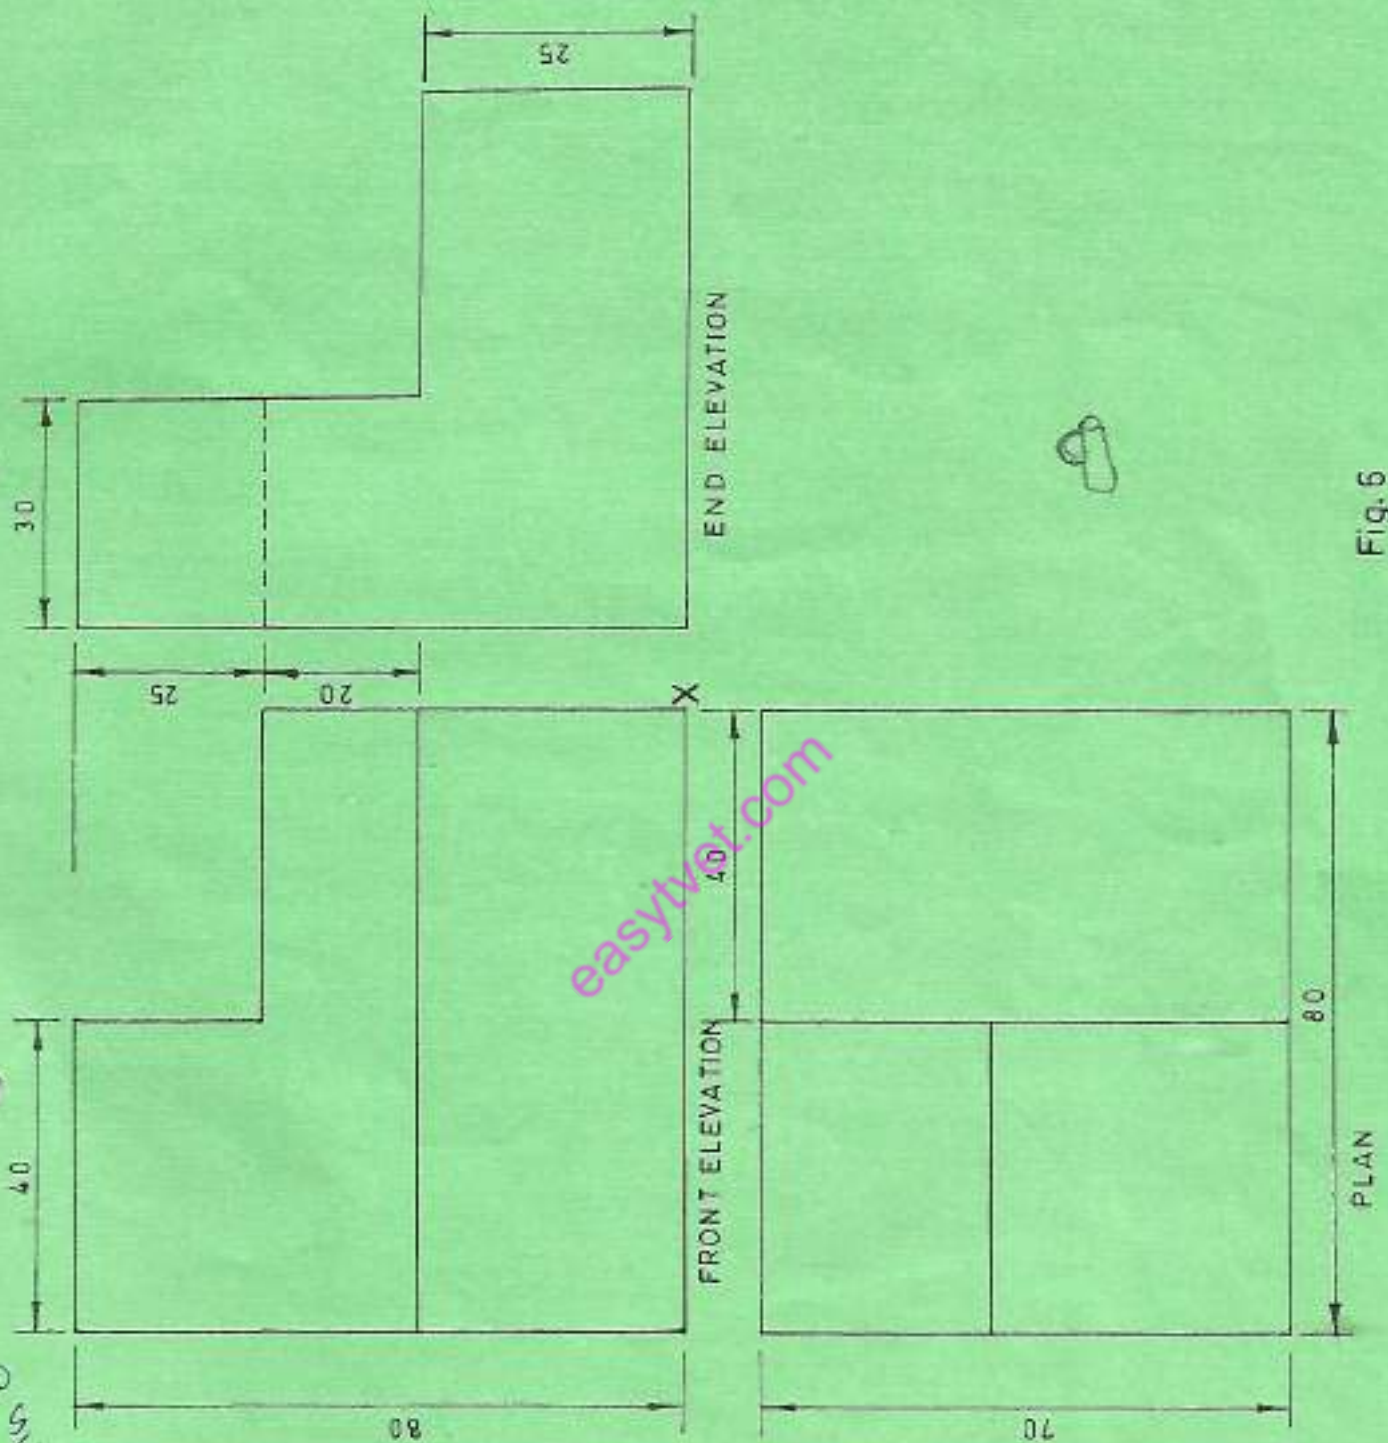

Fig. 6
16. Figure 6 shows orthographic views of a metal block. Draw the isometric pictorial view with 'X' as the lowest point. (15 marks)